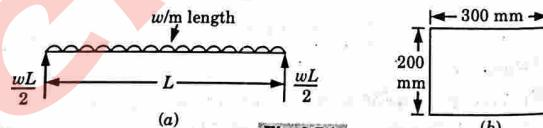

Fig. 3.7.1.
3. Maximum BM for a simply supported beam carrying uniformly distributed load as shown in Fig. 3.7.1 is at the centre of the beam. Hence, the maximum BM,